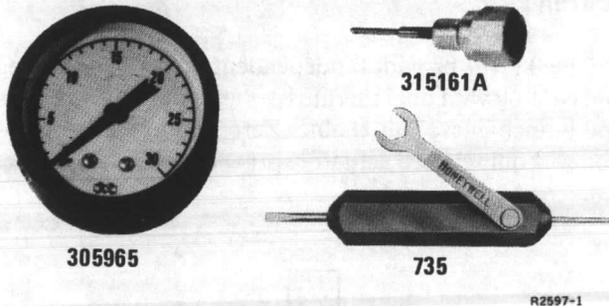

Fig. 15. Tools Necessary for Calibration of TP970 Series Thermostats.
## EQUIPMENT REQUIRED (Fig. 15)
3. Install a 0 to 30 psi (0 to 207 kPa) gage with the gage adaptor (Fig. 15) into the gage port (except TP978).
3. Unscrew center holding screw (TP978) or thermometer mounting post using thermostat tool 735 (Fig. 15).